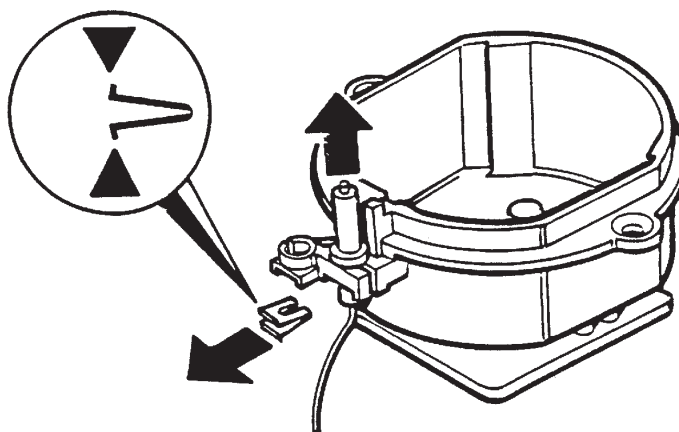

Fig. 8
4. Remove spring clip retaining electrode to burner body (See Fig. 8) and remove electrode and cable.